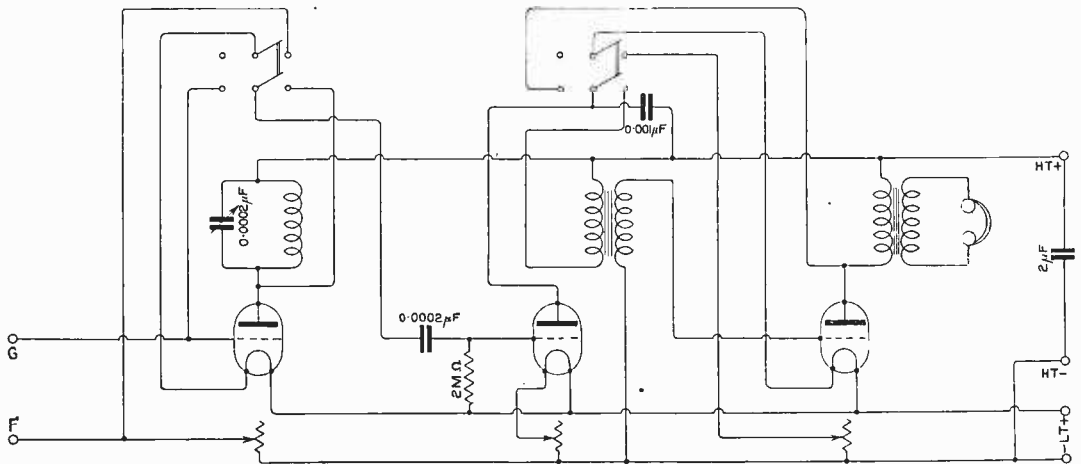

Fig. 8.
(1) See Fig. 8. A number of arrangements similar to this have recently appeared. (2) The telephone transformer may consist of a bundle